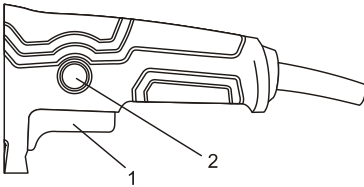

Fig. 6
Your sander is equipped with a lock-on feature, which is convenient when continuously sanding for extended periods of time is required (Fig. 6). To lock the switch ON, depress the trigger switch (1), push in and hold the lock-on button (2) located at the left side of the handle, then release the trigger. Release the lock-on button and your sander will continue running. To turn the sander OFF, depress and release the trigger switch to release the lock-on button.